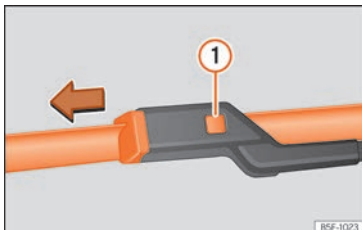

Fig. 40 Changing the windscreen wiper blades
- Press and hold release button » » » **Fig. 40** **1** and pull gently on the wiper blade in the direction of the arrow.